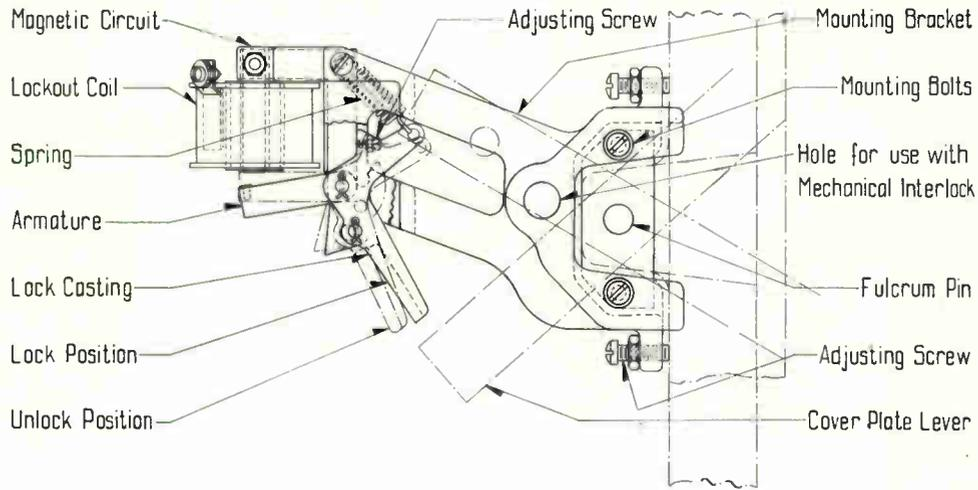

FIG. 25—ELECTRICAL LOCKOUT DEVICE
to the coverplate as shown in Fig. 25. It is necessary to take out the fulcrum pin of the coverplate and remove the two washers which space the handle on either side from the lugs on the coverplate. The steel piece of the electric lock-out device occupies space left by the removal of the washer. The lock-out device can then be mounted as shown, and the set screws tightened so that it is held rigidly in place. It should be observed that the armature moves freely, and that with the armature closed, the handle has clearance to pass; while with the coil de-energized, and the armature open the lug is over the trip lever of the handle, and successfully prevents it from closing.
**Electrical Lockout Device (Fig. 25)**—The electrical lockout device is used in various schemes where it is desired to in-